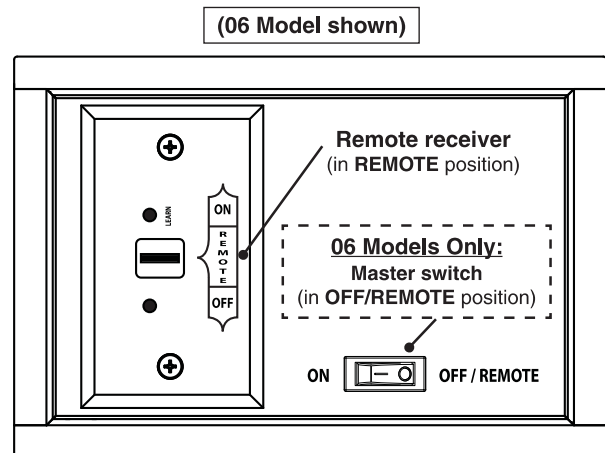

Fig. 29-1 Control panel detail
1. **06 MODELS ONLY:** Ensure the master switch is in the **OFF/REMOTE** position (see Fig. 29-1).
2. Locate the 3-position switch on the remote receiver (see Fig. 29-1), and slide the switch to the **REMOTE** position.